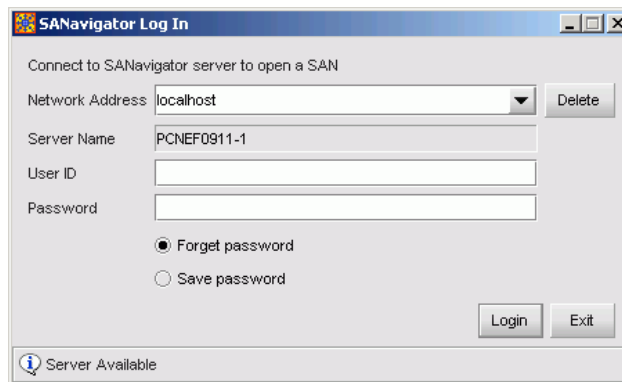

Figure 4-89 SANavigator Log In or EFCM Log In Dialog Box
- f. Type the default Windows 2000 user name and password and click **OK**. The management server's Windows 2000 desktop opens and the *SANavigator Log In* or *EFCM Log In* dialog box displays (Figure 4-89).